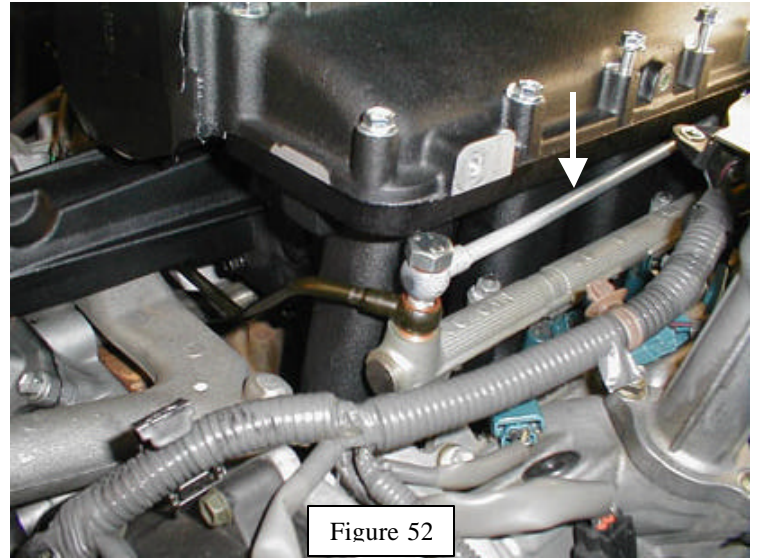

Figure 52
26. Position the 9th injector fuel delivery line next to the intake runners on the driver-side. The line will fit between the OE fuel damper and the intake runners (Figure 52).
27. Use the TRD supplied banjo bolt and gaskets to install the 9th injector fuel delivery line. Starting from the top, the correct order is TRD banjo bolt, gasket, 9th injector line, gasket, TRD front fuel pipe, gasket, and finally the OE driver-side delivery pipe (Figure 52). Leave the TRD banjo bolt finger-tight at this time.